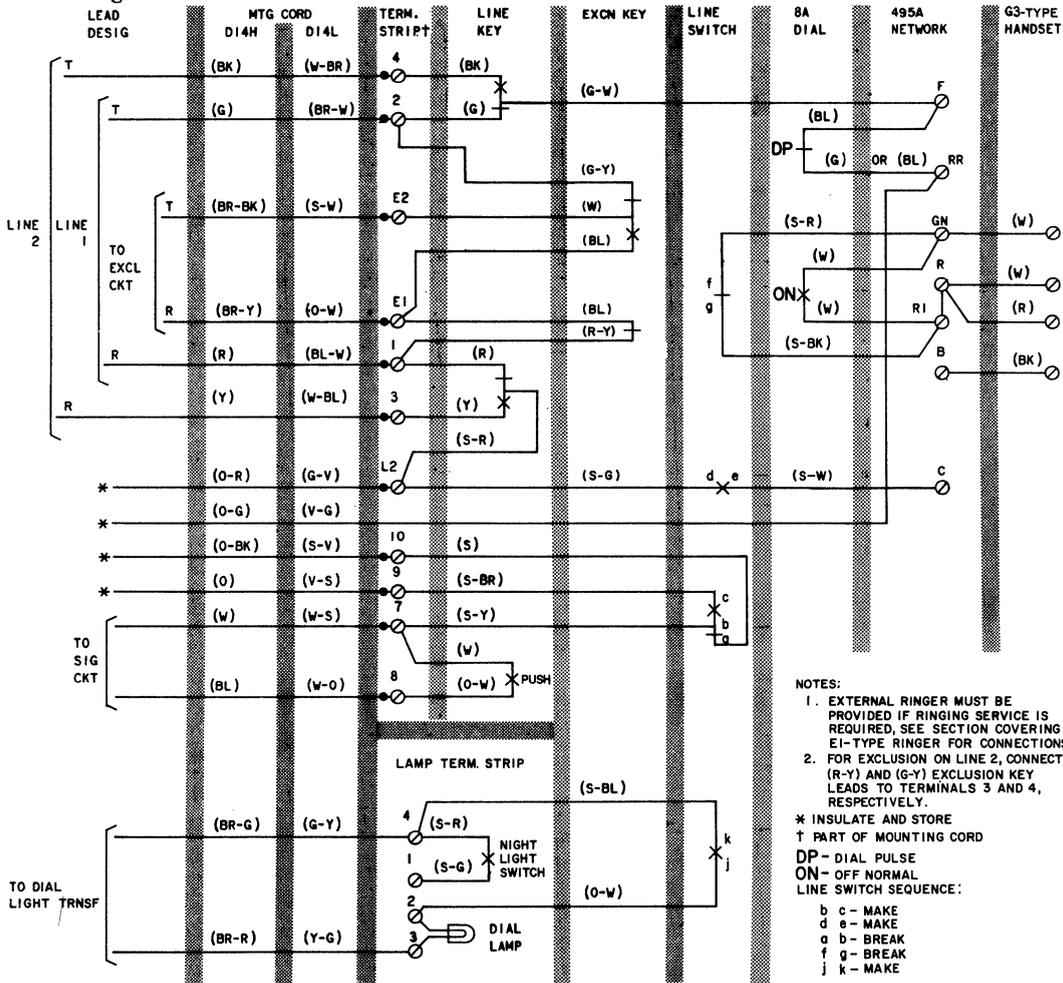

Fig. 1—711B (MD) Telephone Set Connections, Wired for 2-Line Pickup, Exclusion on Line 1
1.01 Reissued to add nontechnical changes to Fig. 1.